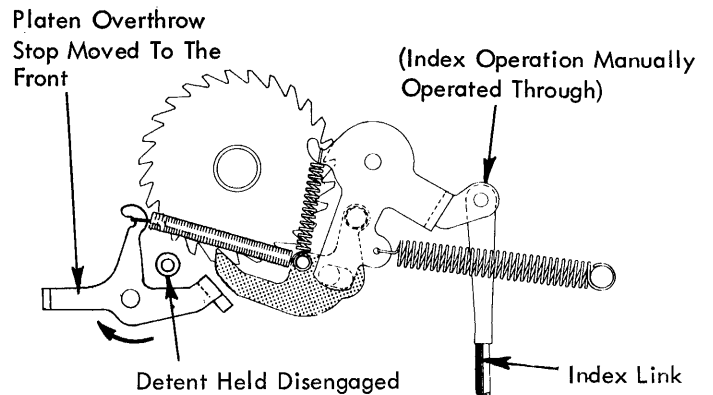

FIGURE 218. Index Link Adjustment
- a. As a preliminary step, loosen the platen overthrow stop and move it to the front (Fig. 218).